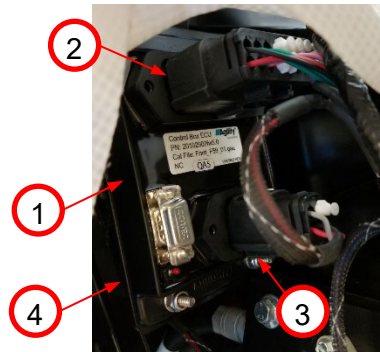

Figure 1:
3. Disconnect cabin harness 16-pin connector (2) and cabin harness 4-pin connector (3) from ECU (1) located to the left of the steering wheel under instrument panel dash. *Figure 1*
2. Connect cabin harness 16-pin connector (2) and cabin harness 4-pin connector (3) to ECU (1). *Figures 1 and 3*